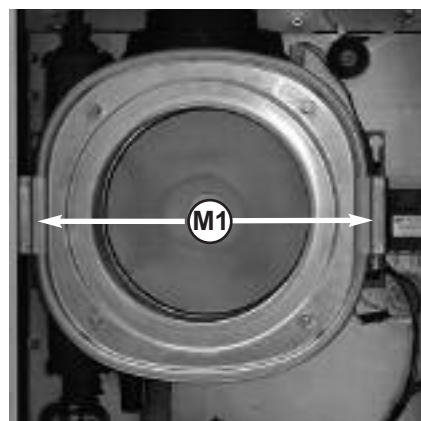

Fig. 76
5. Remove the two bolts securing the exchanger (Fig. 76);